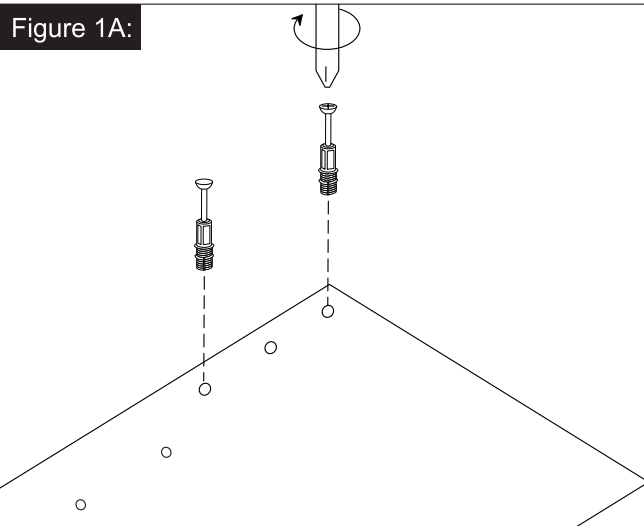

Figure 1:
- A.** Insert the Cam Rods into the inset nut into the Left Side as shown Figure 1, Tighten with the Philips screwdriver as shown Figure 1A. Repeat on the Right Side.